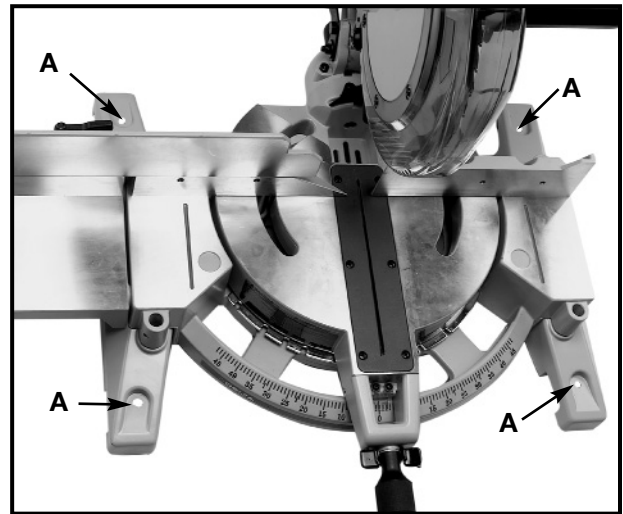

Fig. 9
Before operating your compound miter saw, firmly mount it to a workbench or other supporting surface. Four holes, (A) Fig. 9, are provided for fastening the saw to a supporting surface.